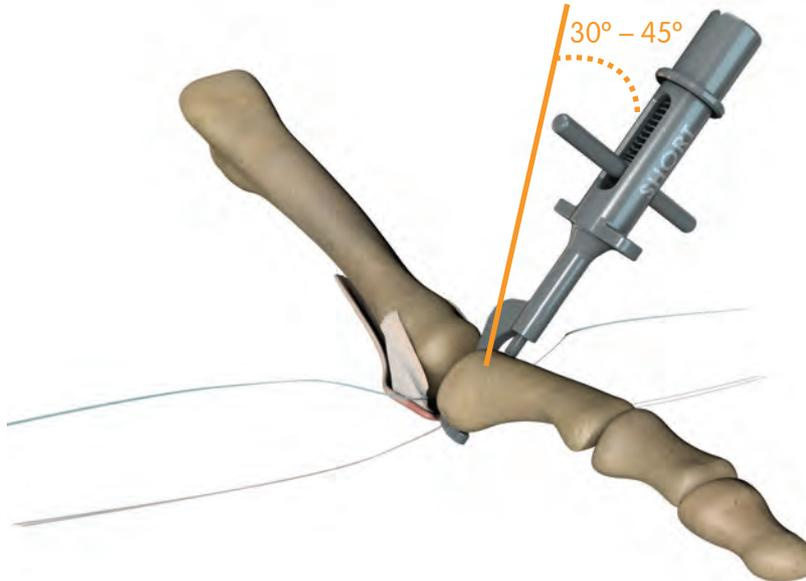

Figure 14: Phalangeal Drill Guide, Short Offset placed at $30 - 45^{\circ}$ to the sagittal plane.
1. Drill a bone tunnel using the Phalangeal Drill Guide, Short Offset (REF 72204321) and 1.6mm K-wire from the procedure pack. Place the distal tip of the drill guide at the ligament attachment site on the bony rise of the phalanx. Place the curve of the drill guide on the concavity of the phalanx (Figure 14). Place the proximal end of the drill guide $30^{\circ} - 45^{\circ}$ to the sagittal plane.